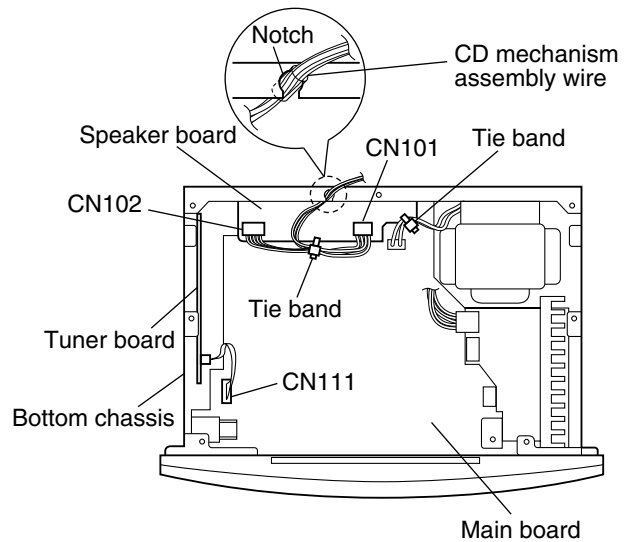

Fig.8
■ Removing the tuner board (See Figs. 8 and 9.)
■ Removing the speaker board (See Figs. 8 and 9.)
- Insert the CD mechanism assembly wire into the notch on the bottom chassis. (See Fig. 8.)